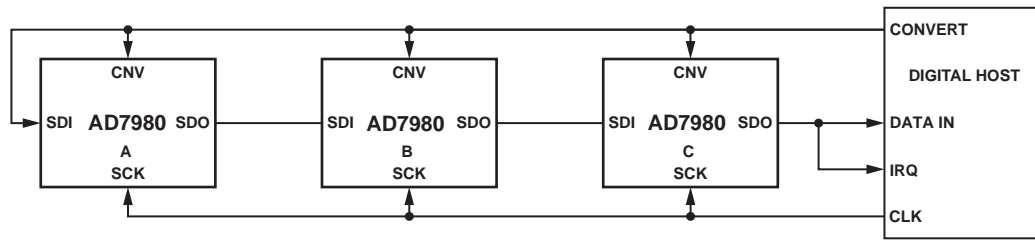
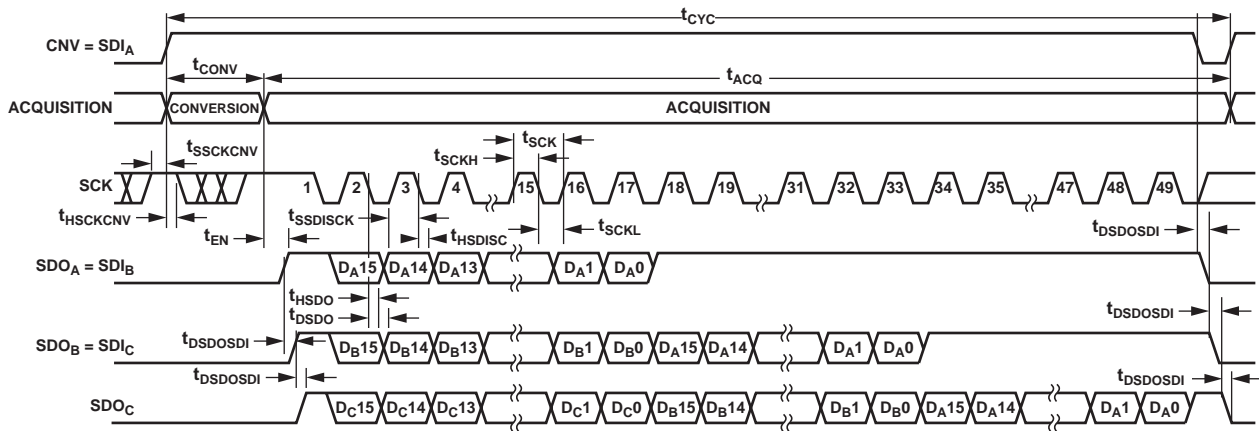

Figure 25. Chain Mode with BUSY Indicator Connection Diagram
Figure 26. Chain Mode with BUSY Indicator Serial Interface Timing
- In the chain mode, if SCK is high during the CNV rising edge (Figure 26).
A connection diagram example using three AD7980s is shown in Figure 25 and the corresponding timing is given in Figure 26.
subsequent data readback. When all ADCs in the chain have completed their conversions, the nearend ADC (ADC C in Figure 25) SDO is driven high. This transition on SDO can be used as a BUSY indicator to trigger the data readback controlled by the digital host. The AD7980 then enters the acquisition phase and powers down. The data bits stored in the internal shift register are then clocked out, MSB first, by subsequent SCK falling edges. For each ADC, SDI feeds the input of the internal shift register and is clocked by the SCK falling edge. Each ADC in the chain outputs its data MSB first, and $16 \times N + 1$ clocks are required to readback the N ADCs. Although the rising edge can be used to capture the data, a digital host using the SCK falling edge allows a faster reading rate and, consequently more AD7980s in the chain, provided the digital host has an acceptable hold time.